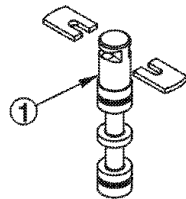

FIG. 1
- Hold shuttle spool (item 1) upright and align slot and in detent legs (item 2) with notch on shuttle spool, see Fig. 1.